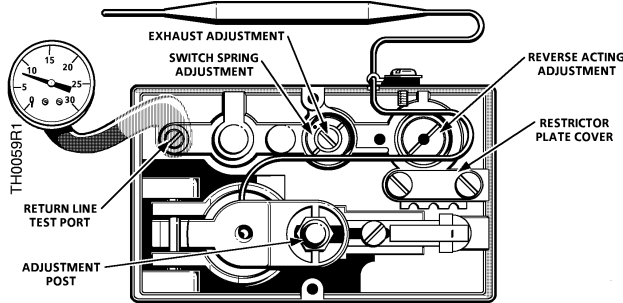

Figure 5. Heating/Cooling Changeover.
3. Open bleed screw on test port and connect gauge (*Figure 5*).
The changeover is a factory adjustment; it is sealed with ambroid and does not require field adjustment. If, for some reason, this adjustment is disturbed, re-adjust as follows (See *Figure 5*):